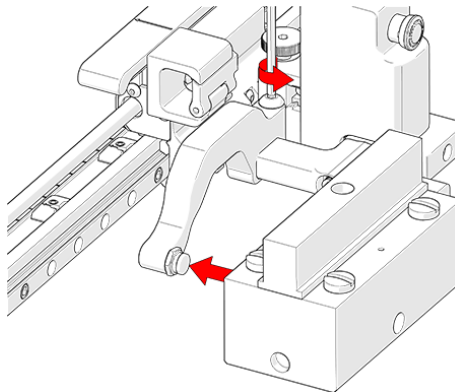

Figure 3-22 Adjust inner arm
3. Loosen the arm clamp screw (see Figure 3-22 on page 57).